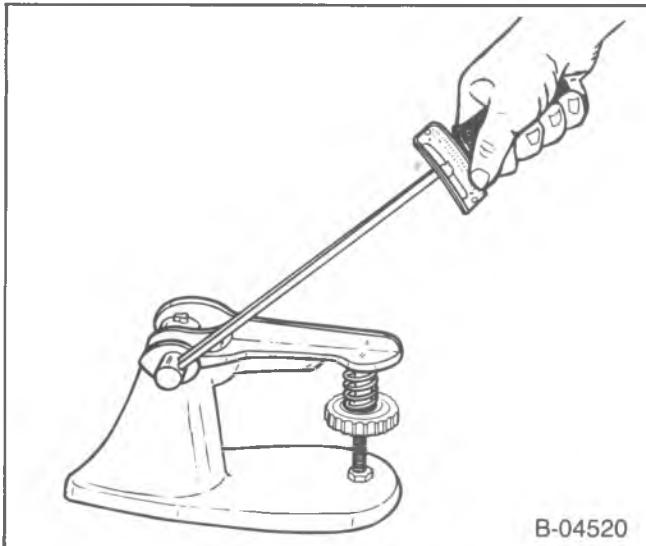

Figure 33—Measuring Valve Spring Tension
- Valve spring tension. Use J-8056 or equivalent (figure 33).